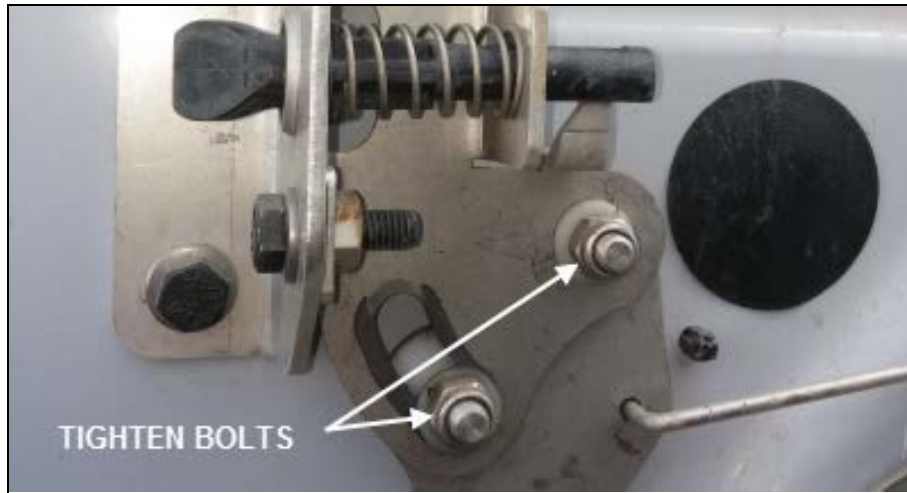

FIG.11 FINAL TIGHTENING OF ARM BOLTS
10. Tighten both arm nuts (no specific torque; movement must remain smooth without side play) (Fig.11).